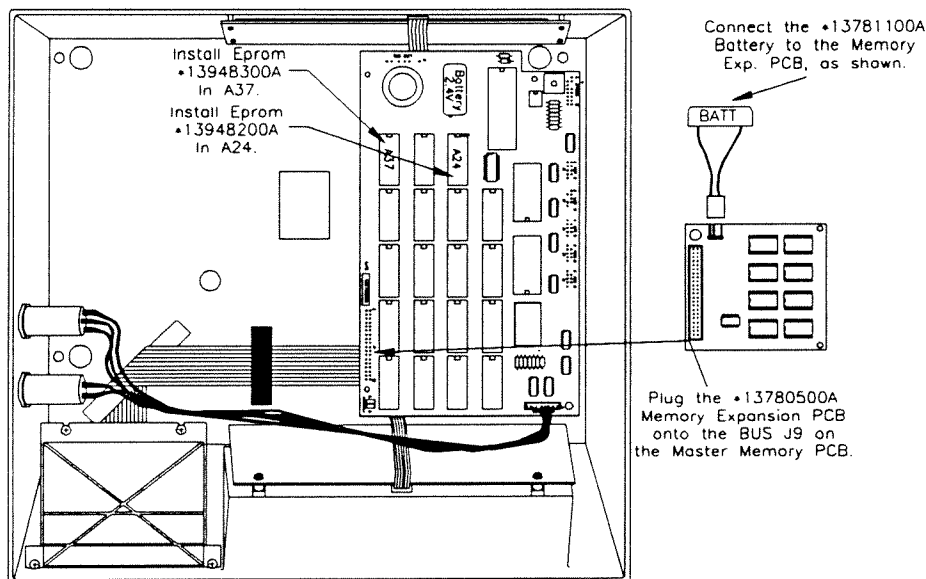

Figure 4.3 Installing Memory Expansion Kit
phone jack (P/N 12716300A) must be attached to the main data cable at each scale location. The phone jack must be located within 25 feet of the scale to allow connecting the 25-foot communication cable between the phone jack and the scale. Each scale is shipped with a 25-foot communication cable (P/N 12716500A) which connects the scale communication port to the phone jack. Refer to Figure 4.3 which gives an example of the scale network wiring in detail. The main data line must be terminated at the ends by connecting the supplied 113 ohm resistor (p/n 12839300A) between the Green and Red terminals in the phone jacks. The terminating resistors are supplied with each master scale.
- 4.2.2 Remove the EPROM's on the Master Memory PCB at locations A24 and A37. (Refer to Figure 4.3.) Install the new 4-D Memory Expansion EPROM *13948200A in A24, and the new *13948300A in A37.
- 4.2.3 Install the *13781100A External Battery on the Memory Expansion PCB as shown in Figure 4.3.
- 4.2.4 Install the *13780500A Memory Expansion PCB on the Master Memory PCB BUS J9. (Figure 4.3).